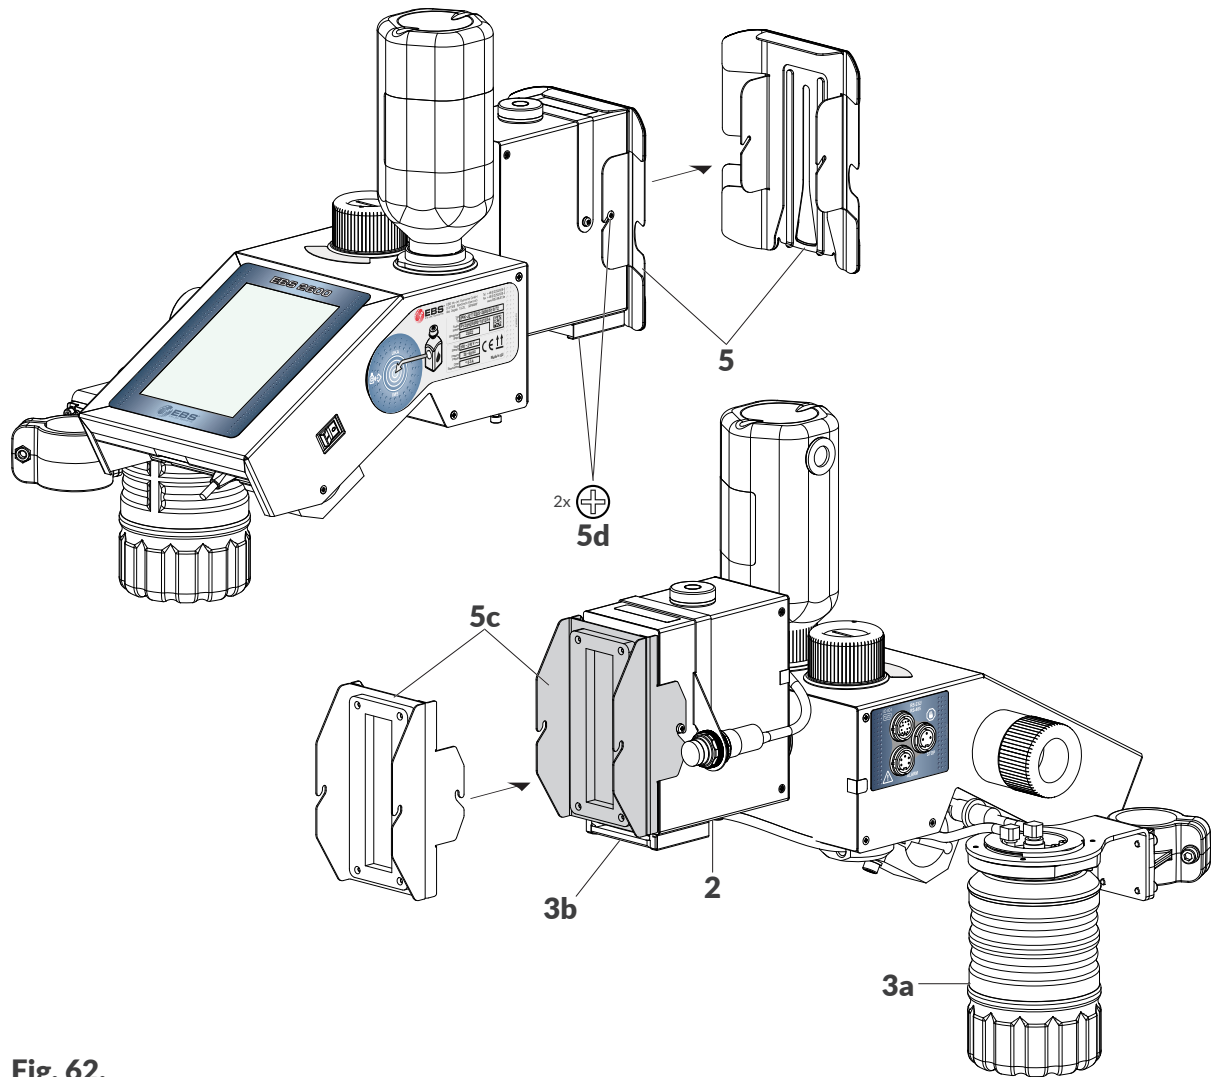

Fig. 62.
The jetted ink flows down the nozzle plate (optionally along drip molding **5c** - see Fig. 62 on page 150) to drip rail **3b**, and then it is collected by the drip system and reaches waste bottle **3a**.
- Use the cross head screwdriver to loosen two screws **5d** (see Fig. 62) that fasten slide **5**.
1. Use the cross head screwdriver to loosen two screws **5d** (see Fig. 62 on page 150) that fasten drip molding **5c**.